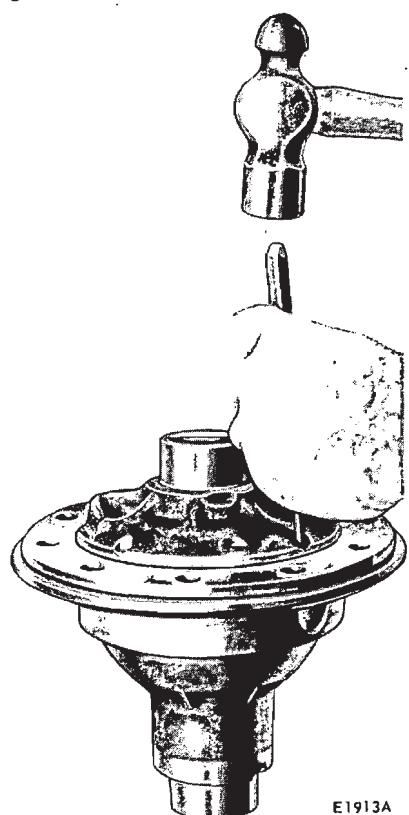

FIG. 22—Differential Pinion Shaft Lock Pin Removal
3. With a drift, drive out the differential pinion shaft lock pin (Fig. 22).
5. Start the pinion shaft into the differential case. Carefully align the shaft lock pin hole with the pin hole in the case. Drive the shaft into place and install the lock pin (Fig. 22).